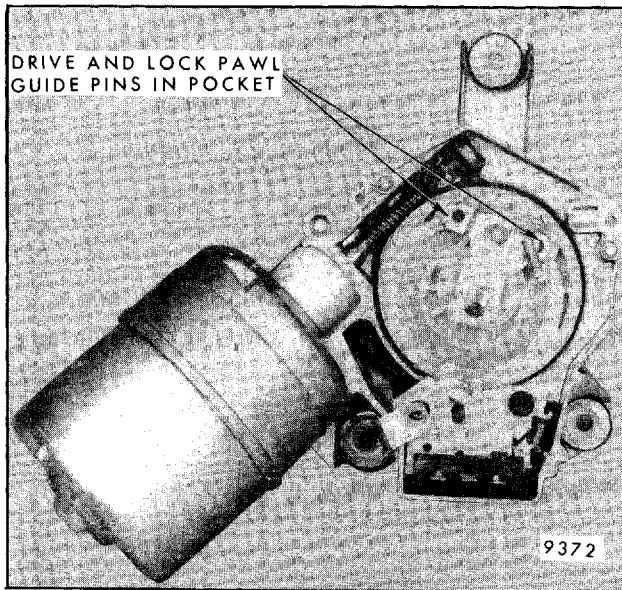

Fig. 2-47-Gear in Normal Run Position
1. The relay switch coil circuit is opened and this allows the spring-loaded latch arm to move out into the path of the gear drive pawl. The relay switch contacts, however, are still closed at this stage of operation and the wiper motor continues to run (Fig. 2-47).